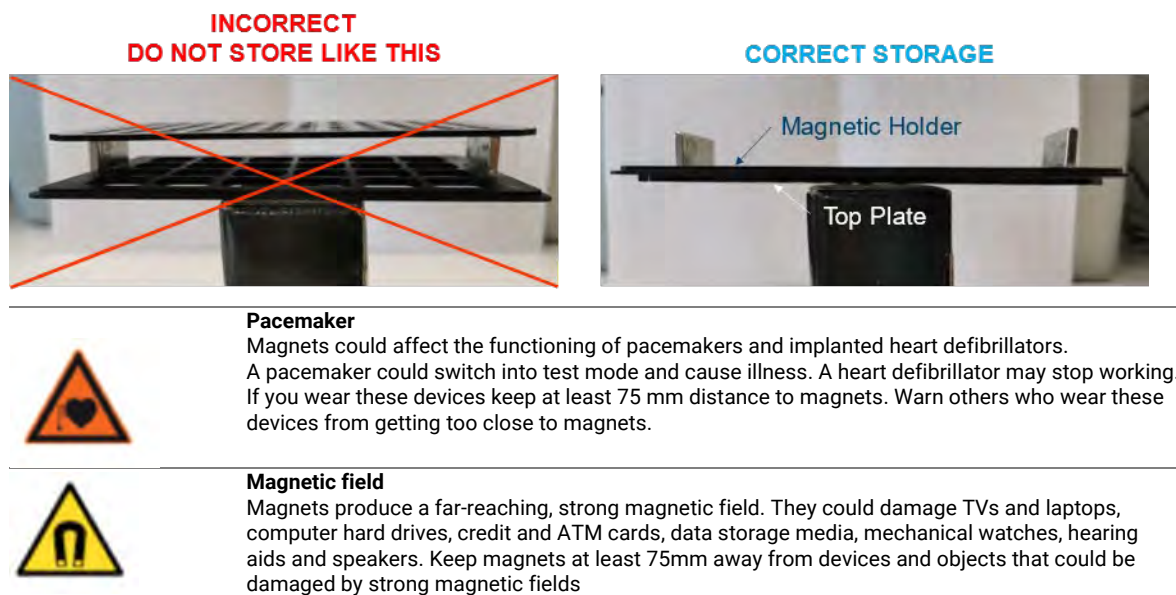

Figure 2. Magnetic holder recommended storage condition,
- The Mito-rOCR magnetic holder is stored at room temperature. Do not leave the metal top plate unsupported between the magnets. If unsupported, the metal top plate can bend over time, requiring a replacement of the magnetic holder. Keep the top plate either supported by a microplate or place it beneath the magnetic holder metal base plate (Figure 2).
- Overnight incubation while the cells are adhering to the microplate is recommended. Refer to the storage and handling guidelines in the previous section (Figure 2).